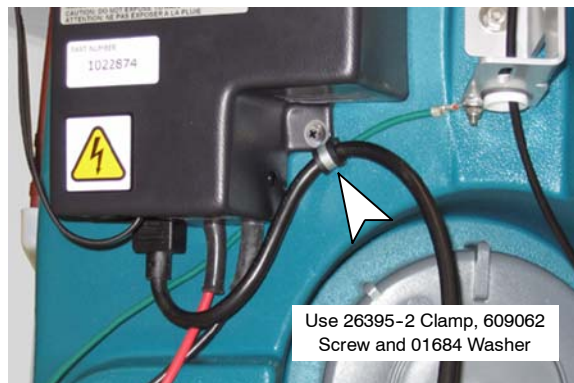

Fig. 9
8. Plug the power cord into the charger. Secure the cord to the machine using the clamp, mounting screw and flat washer provided in the kit. Use a small amount of blue adhesive on the screw threads (Figure 9).